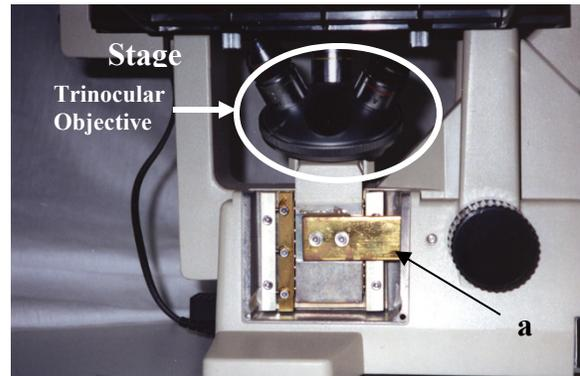

Figure 2. Side view of an Olympus CK2 microscope; screw stop mechanism (a) will normally stop movement of the horizontal brass piece at its far right side.
1. *Adjust the vertical travel stop mechanism from the focus adjustment on your microscope.* Most microscopes have a screw mechanism to stop the vertical travel point relative to the stage (a, Fig. 2). A stop point prevents the objective from contacting the culture plate on the stage. If this stop mechanism is adjusted, the objective lens can travel further allowing the objective to focus on cells on the BioFlex® membrane. Different microscopes have different mechanisms for adjusting the distance for objective lens travel. If you are not sure of the location of your travel adjustment mechanism, contact your local microscope representative or the manufacturer for assistance.